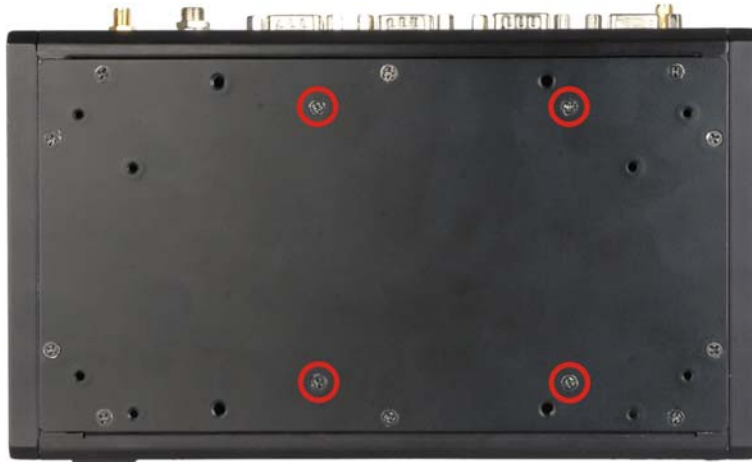

Figure 3-3: HDD Bracket Retention Screws
Step 2: Remove the hard drive bracket from the bottom surface by removing the four retention screws that secure the bracket to the bottom surface. (**Figure 3-3**)